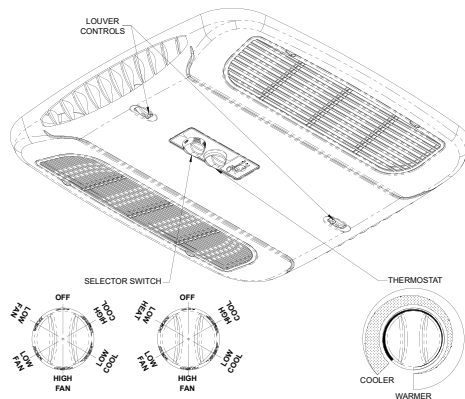

FIGURE 1
- The Selector Switch** – The selector switch determines which mode of operation the Heat Pump will be in. By rotating the selector switch, the operator can obtain any system function desired. System functions vary depending upon options of both the roof top unit and ceiling assembly. Figure 1 shows selector switch location and lists all available functions by model.
I. For Cooling (Refer to Figure 1, page 9).
IV. For Heating ("Elect-A-Heat" Ceiling Assembly Model Only) Refer to Figure 1, page 9).
V. For Air Circulation Only (Refer to Figure 1, page 9).